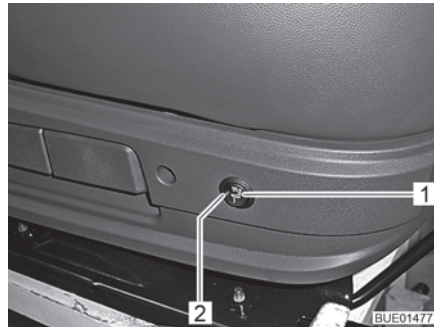

Fig. 19 Switch for seat heater
- Press the switch (Fig. 19,1) at the back on the left side of the seat console.
The LED (Fig. 19,2) comes on when the seat heater is in use.
- Set switch (Fig. 19,1) to the middle position. The LED goes out.